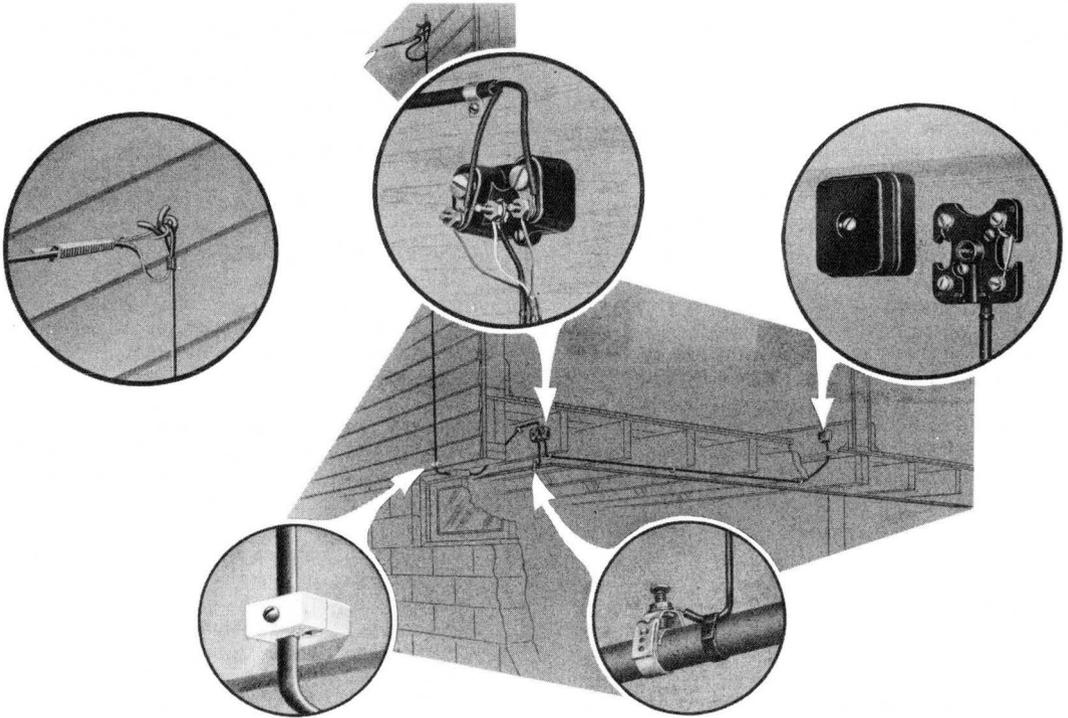

Fig. 4—Typical Wiring Routes
- (1) In finished buildings, such as apartment houses, multi-unit dwellings, or other living quarters, if the service installed is for 0-1 key service, keyless stations, or extensions from PBX-type service
- (2) When service orders have been issued in advance, pending the availability of facilities to connect service.
3.02 Fig. 4 and Table A show various points which should be considered when selecting routes for wire and cable.